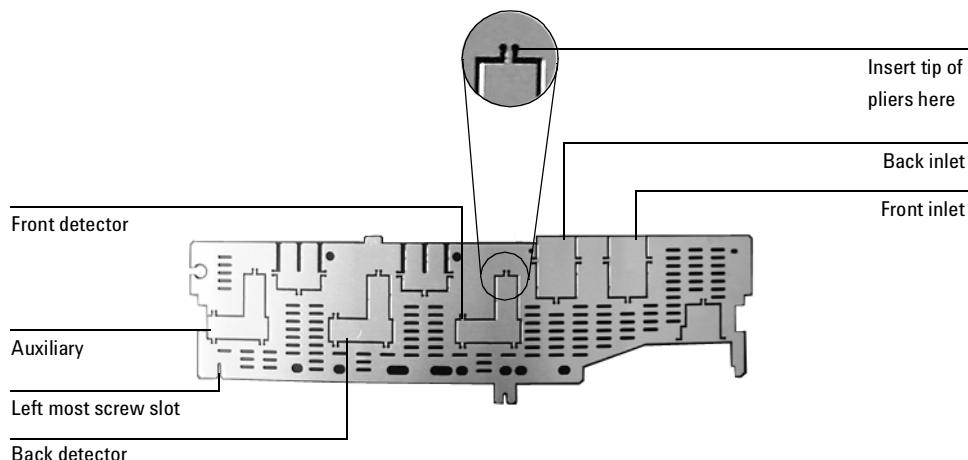

Figure 350-18 Top rear panel cutouts
10. Using a pair of needle-nosed pliers, remove the appropriate top rear panel detector cutout for the FPD. Also remove any cutouts needed to access other manifolds or accessories installed in the GC. See Figure 350-18.